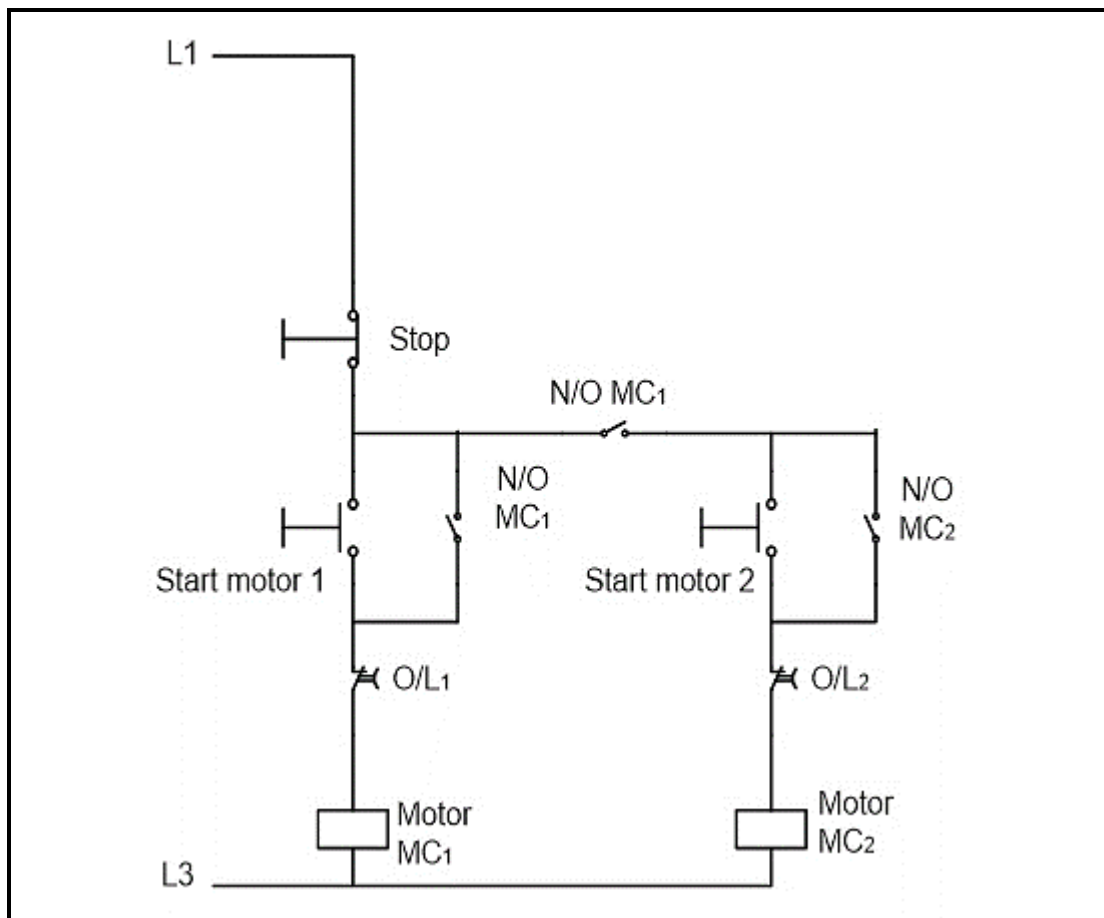

FIGURE 7.8: MANUAL SEQUENCE STARTER WITHOUT TIMER
7.8 Refer to FIGURE 7.8 and answer the questions that follow.